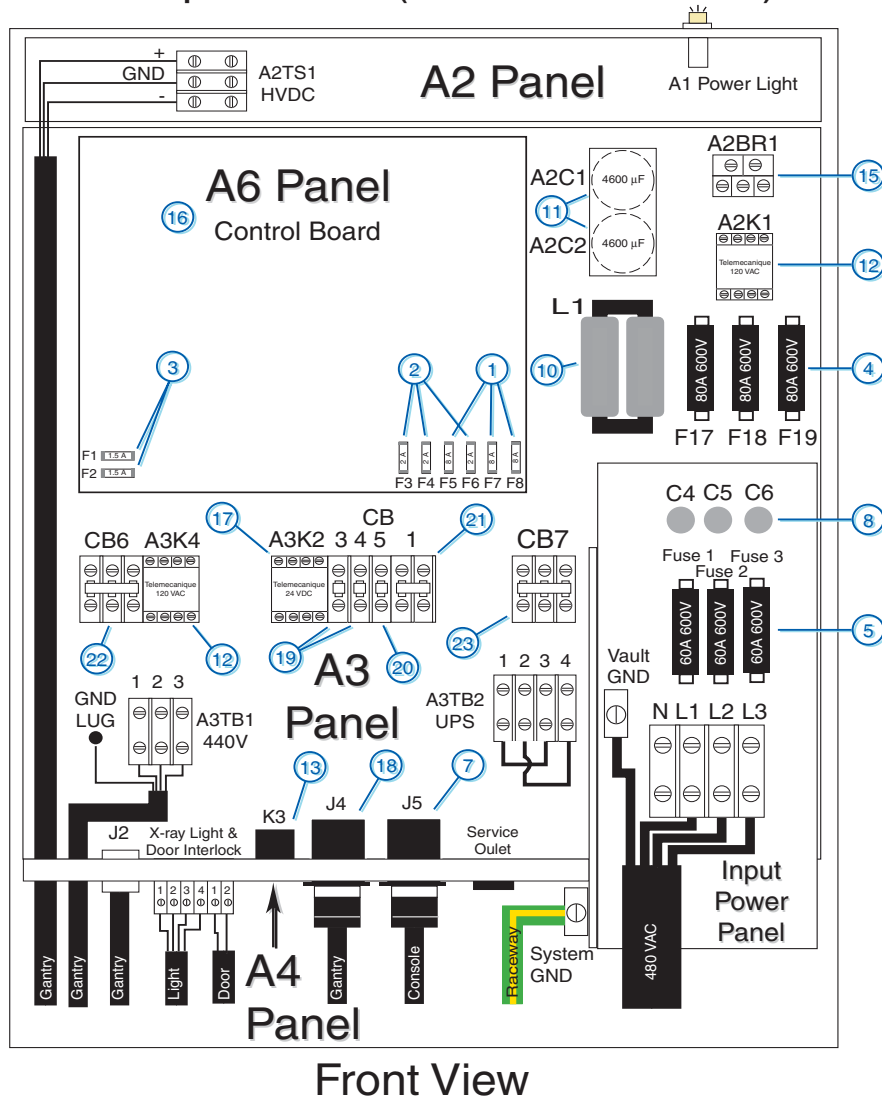
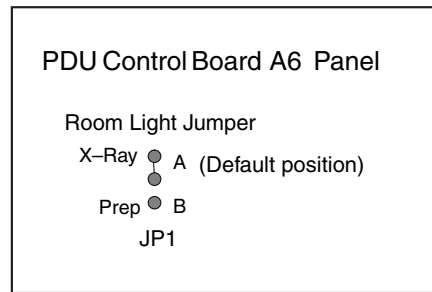

Figure 2-24 PDU Cable Connections - Front
Figure 2-33 X-ray Light Configuration
Some cables must be installed throughout the PDU (see Figure 2-24). Specific details on each connection are found in the sub-sections that follow. Use Figure 2-24 for reference. The PDU was designed to have cables routed into the PDU from behind and/or beneath it.
When Mains power is available to the PDU, the “A1” power light is illuminated (see Figure 2-24).
Connect the internally shielded HVDC cable to A2TS1 on the A2 panel. (See Figure 2-24 for the location of the connector and Figure 2-29 for details.) Observe polarities and grounds.
Connect the internally shielded 440 V cable from the gantry to A3TB1 on the A3 panel. (See Figure 2-24 for the location of the connector, and Figure 2-29 for details.) Observe the labels on the cable leads for proper identification and orientation.
Connect the ground wire (green with a yellow strip) from the table/gantry raceway ground bus to the system ground lug in the PDU (see Figure 2-24, and Figure 2-32).
- 1.) Configure the PDU control board for the correct X-ray light operation. Determine whether the X-ray light should come on when high voltage is present, or when X-ray is present. The board is shipped with the X-ray light turning “ON” when X-ray is present only. To change this, go to the PDU Control Board (see Figure 2-24), and move the jumper from position A to position B (see Figure 2-33). In the B position, the X-ray light illuminates whenever high voltage is present.